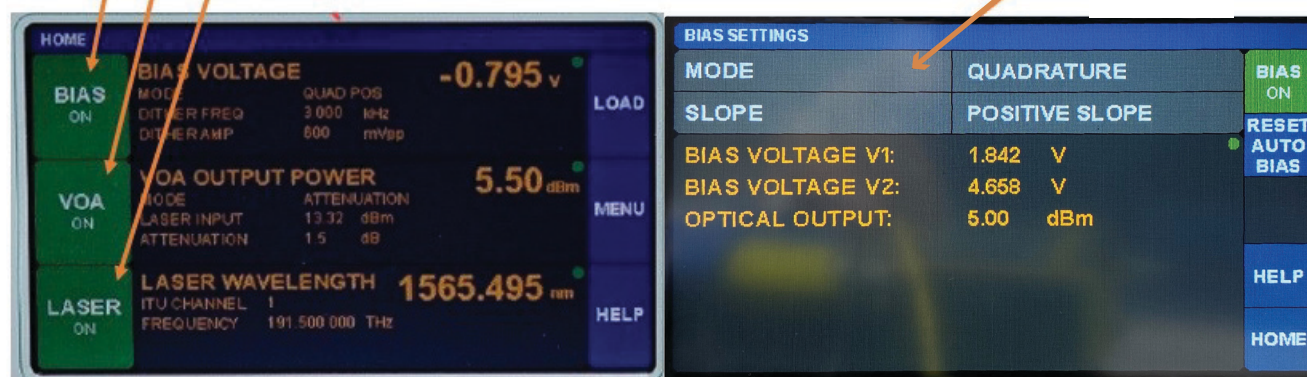

Figure 3-2. E/O Converter Setup Screen
9. Make settings on MN4775A-0110 via the display touch screen as described below; refer to Figure 3-2 (left side).
- a. Touch center section of LASER WAVELENGTH region to bring up secondary screen (not shown in figure 3-2).
- a. Touch center section of VOA OUTPUT POWER region to bring up secondary screen as shown in Figure 3-2 (left side).
- a. Touch center section of BIAS VOLTAGE region to bring up secondary screen as shown in Figure 3-2 (right side).